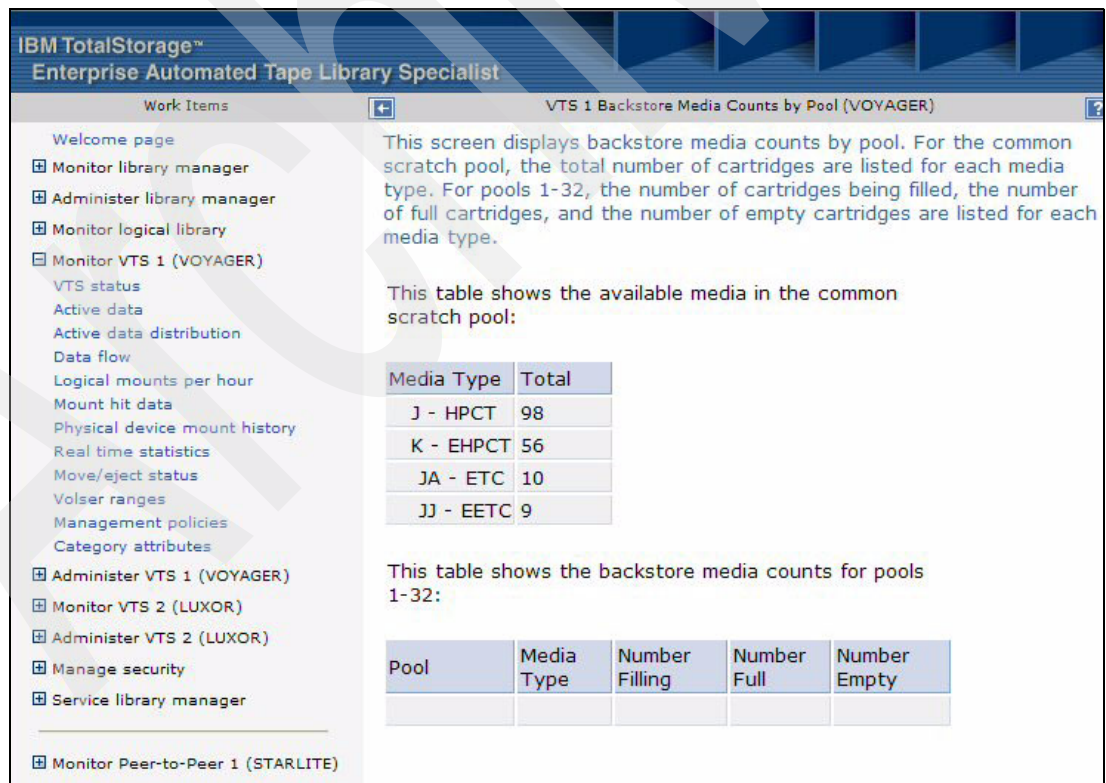

Figure 7-25 Backstore Media Counts
- Real time statistics:** Displays a table that summarizes the VTS real time statistics. From here you have a direct link to the Backstore Media Count window which displays the media statistics for the common scratch pool and all used pools. See Figure 7-25 for an example.
As you can see in Figure 7-25, there are currently no pools active. All cartridges are in the common scratch pool, and the VTS has both 3590 and 3592 drives and cartridges.